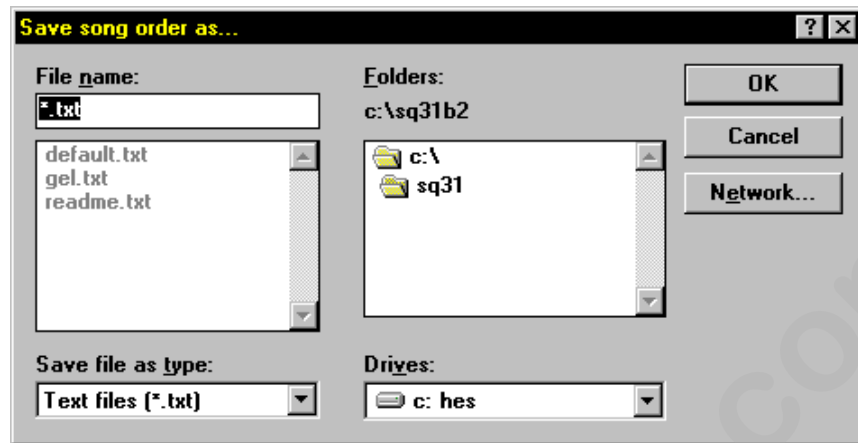

Figure 7.23. Save Song Order As... Dialogue Box
3. To save the Song order as a text file (optional), click the **Save** button. This will bring up **Save Song Order as...** dialogue box. Refer to Figure 7.23. Alternately, click the **OK** button to complete the procedure.